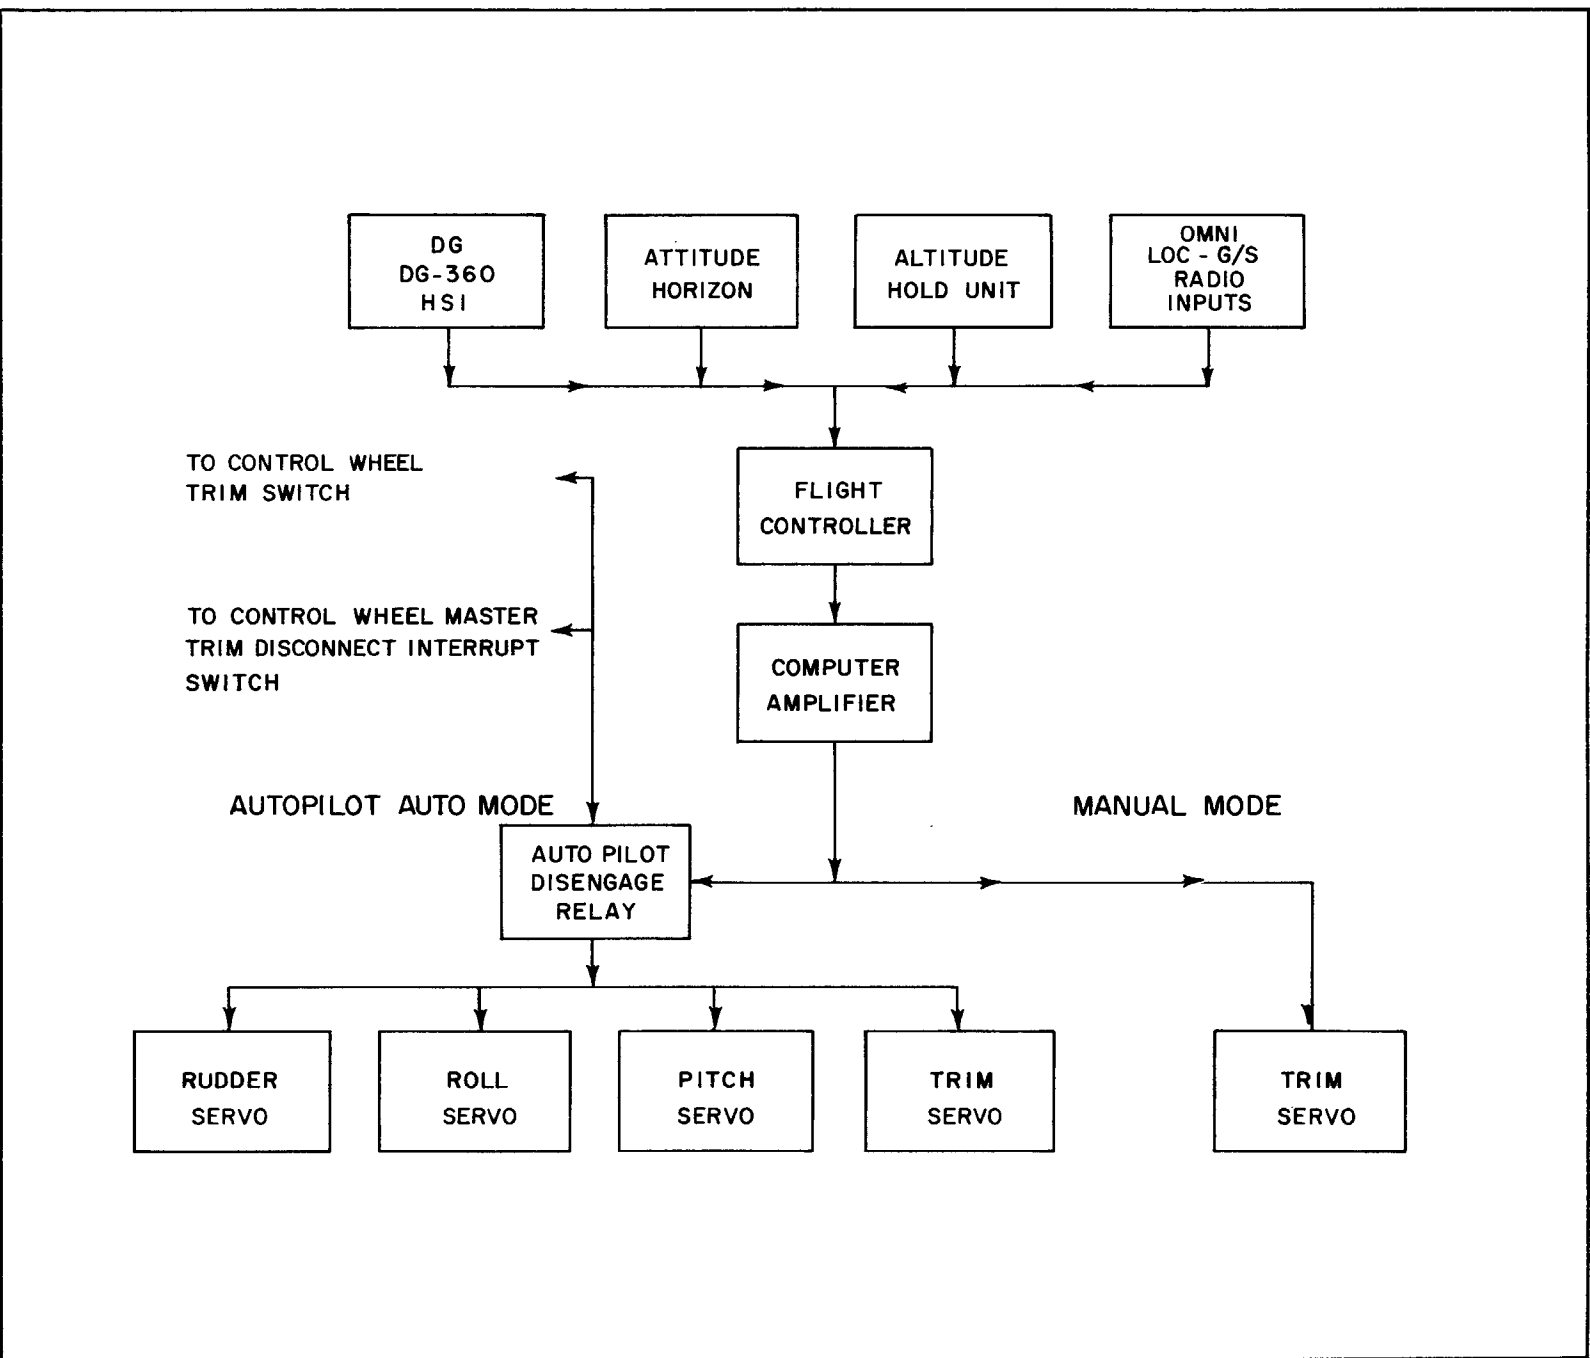

Figure 2-1. AltMatic IIC Block Diagram
The Piper AltiMatic IIC Autopilot may be operated from either a 14-volt DC or a 28-volt DC airplane electrical system. To understand the operation of the Piper AltiMatic IIC Autopilot, refer to the block diagram in Figure 2-1. The various options to the system are also shown in Figure 2-1. The following paragraphs present a theoretical description of the components of the Piper AltiMatic IIC Autopilot.
2-9. **PITCH TRIM SERVO.** As in previous Piper Automatic Flight Control Systems equipment, the Electric Pitch Trim Servo receives electrical power from both a manual and automatic source. When the Autopilot function of the AltiMatic IIC is not used, the Pitch Trim Servo furnishes Manual Electric Trim via the control wheel trim switch. The panel mounted Trim Master Switch must be placed in the ON position for manual electric trim operation. When the Autopilot function is engaged, control of the Pitch Trim Servo reverts to Automatic Electric Pitch Trim via the electronic Autotrim system that electronically senses trim requirements and adjusts the trim as required. There is only one (1) Electric Pitch Trim Servo in the system, the trim servo shown in Figure 2-1 in two (2) blocks only to indicate the servo operates independently in one (1) of two (2) modes. The remainder of pertinent information for the Piper AltiMatic IIC Electric Pitch Trim System is covered in Part III of this manual.